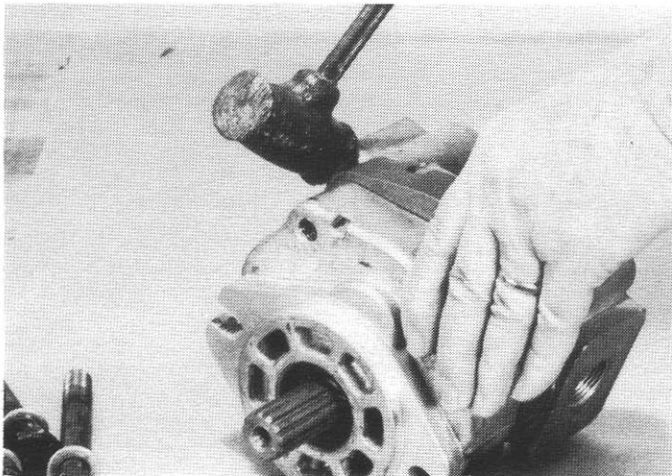

Fig. 6
6. Remove pump from vise. Using wood mallet or plastic hammer, tap connector bosses to loosen cover plate (1). Lift plate straight up off gear journals. (Fig. 6)